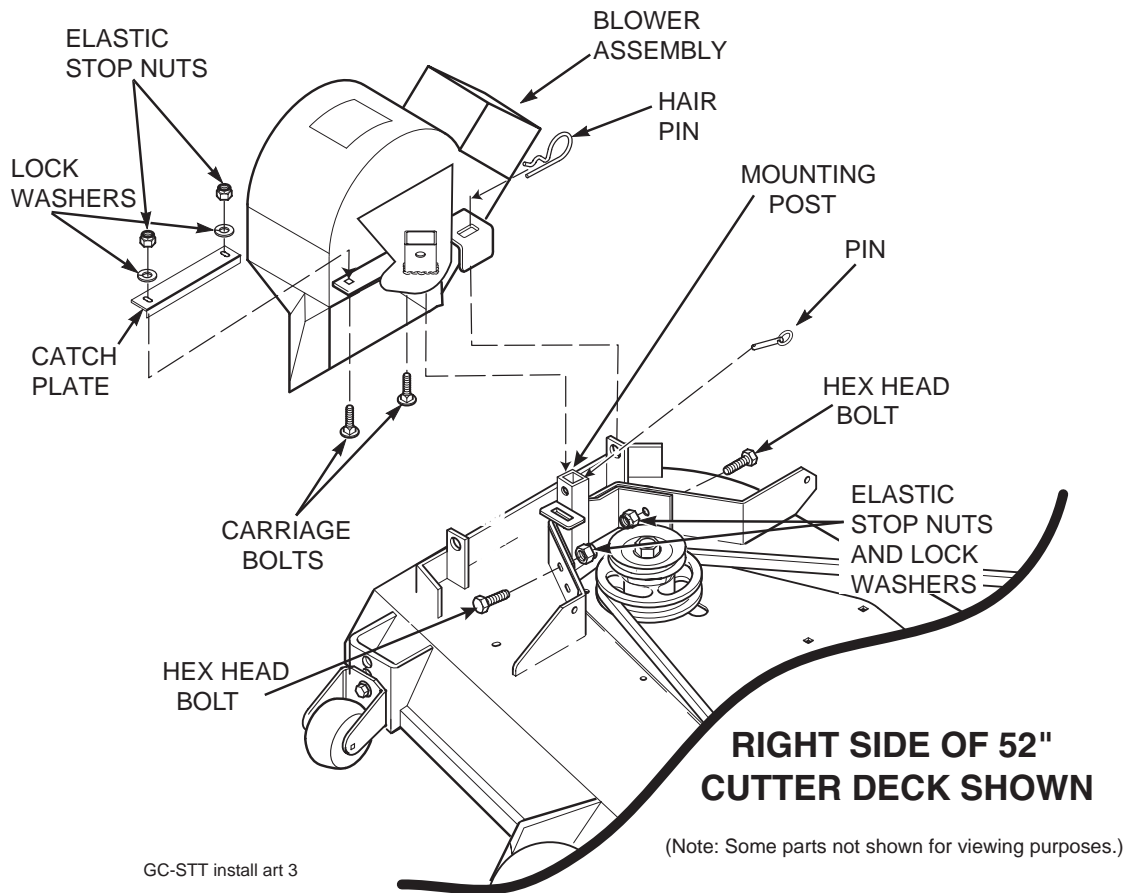

FIGURE 3-4
10. Install the blower assembly to the mounting bracket and secure with the mounting pin and large hair pin. See Figure 3-4, Page 3.